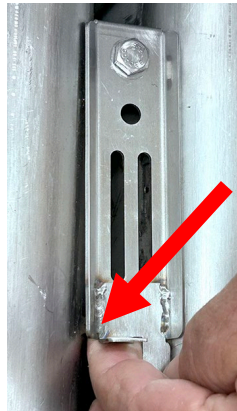

Figure 8
10. Lift up slightly on the bracket on the opposite end of the bolt to put pressure on the bracket and tighten the bolt snug to the tubes (see Figure 8). **Ensure the bolt is tightened snug to the tubes and is not loose.**